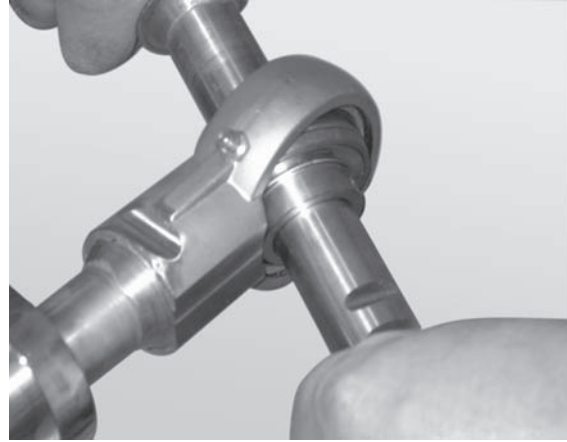

Figure 83
2. Insert the rod end of a second bearing shaft through the bearing (**Figure 83**).